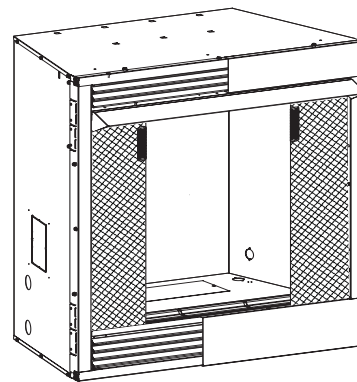

Figure 21
1. Determine which type of firebox you have prior to installation. **See Figures 21 - 22.**